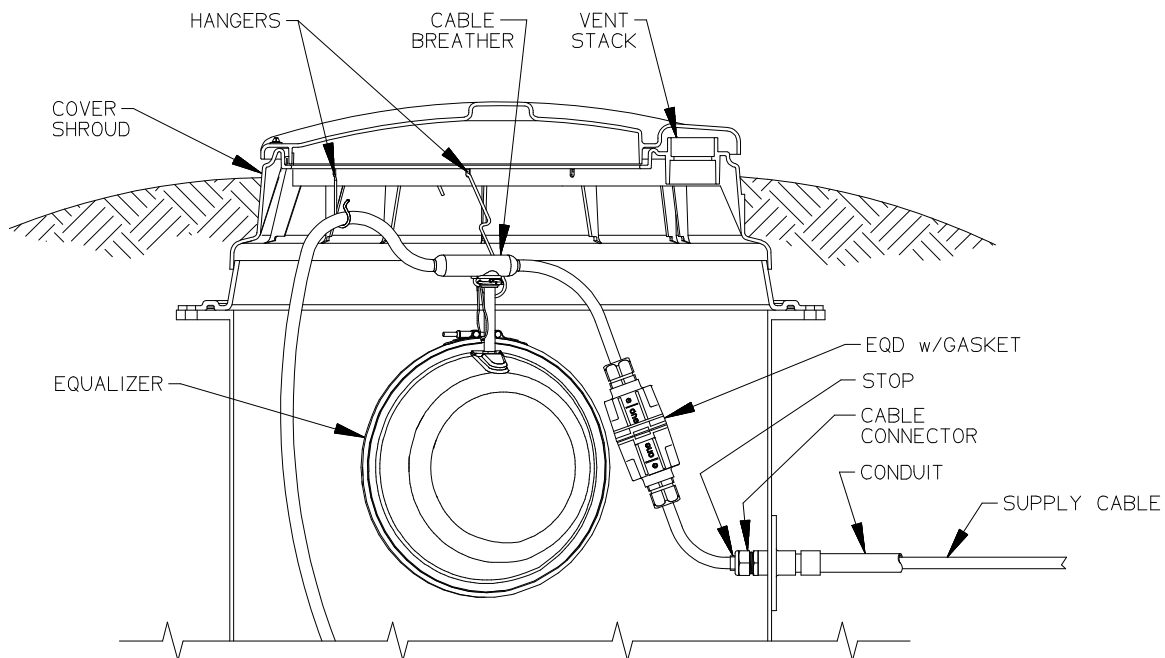

Fig. 3 - Venting & Electrical Connections
pipe must be a minimum of 760 mm from bottom of the tank. The grade of the inlet pipe (per national and local code requirements) must be accounted for when determining the inlet location. The supply cable path should be considered when selecting the inlet location (see Section 8 and Figure 3). A concrete anchor is required to prevent flotation of the fiberglass tank when high groundwater is present. Ensure that the volume of concrete used complies with the site Engineer's requirements. Recommended ballast volumes are presented in Chart 1 of the Ballast Calculation sheet provided with this manual. Concrete ballast should be cast in place around the tank in the excavation. **Do not pour the concrete ballast above the marked inlet pipe location.** If the ballast must be poured above this level, proceed with installation of the inlet piping (see Section 5) before pouring the concrete. The inlet pipe must be sleeved with a 200 mm tube prior to pouring. The tank should be filled with water, to a level above the specified ballast height to prevent
The 2010i station is a sewage handling pump and requires ventilation for proper and safe operation. The station is equipped with two vent stacks which are located beneath the removable fiberglass lid (refer to Fig. 3). The lid and seal are
****IMPORTANT:** *All but 610mm of the cable must be pulled out of the station, and the portion of the cable between the EQD and the molded in cable breather should be secured in position using the provided hangers to ensure that the pump functions properly (see Fig. 3).*
After completing the plumbing proceed with connecting the pump power cable. The grinder pump power cable is supplied with the mating half of the EQD connector. Verify that the EQD gasket is in place on the grinder pump power cord (see Fig. 3). Plug the pump power cable into the supply cable EQD connector. Note that the EQD halves are "keyed" and the plug connections can only be made one way. Align the clamping screws on the pump power cord EQD with the threaded holes on the supply cable EQD. Secure the EQD connection by tightening the two clamping screws until the EQD plastic "stops" are in contact with each other. Remove the plug from the Equalizer tube installed in the breather port and insert barbed fitting on the Equalizer. Using the provided hanging hooks, secure the Equalizer and supply cable to the cover shroud as shown in Figure 3.